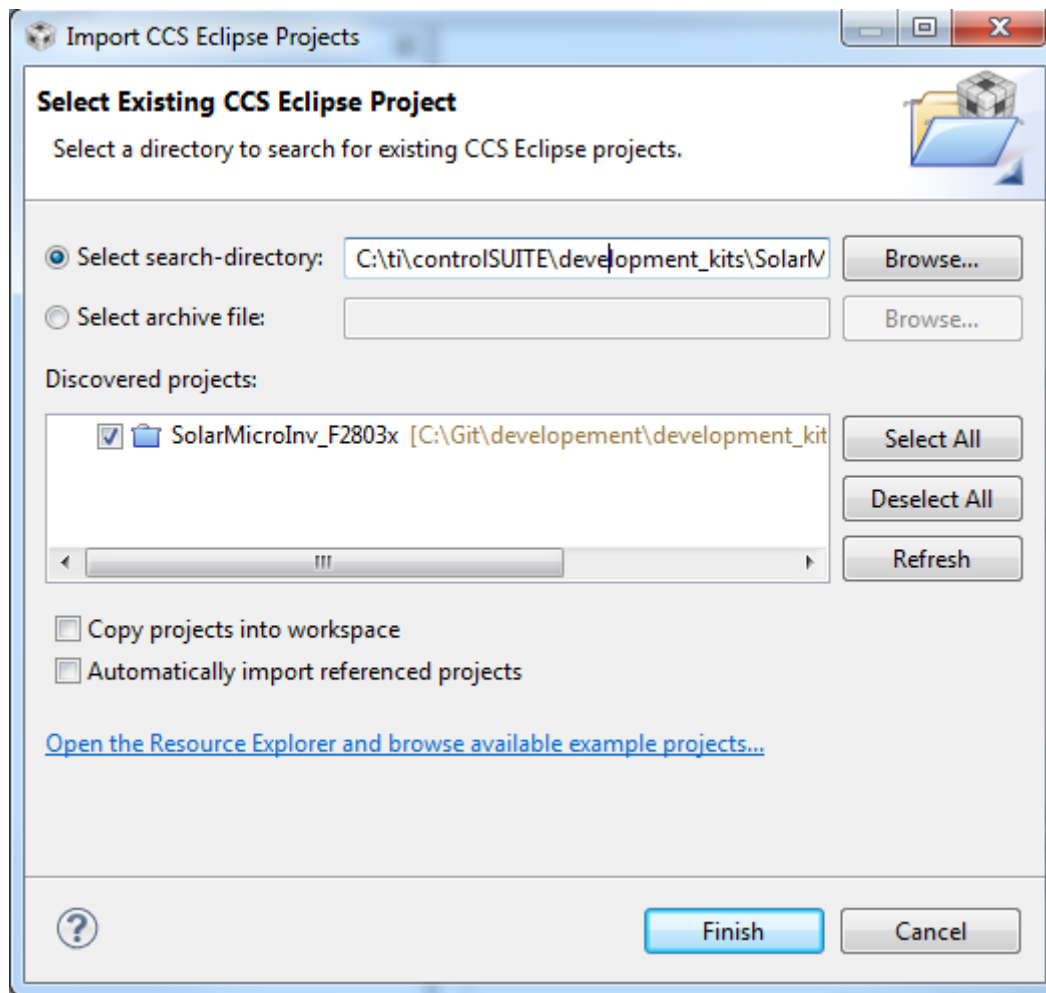

Figure 22. Adding F28035 PV Inverter Project to the Workspace
6. Add the solar micro inverter project into the current workspace by clicking Project→Import Existing CCS/CCE Eclipse Project, as shown in Figure 22.